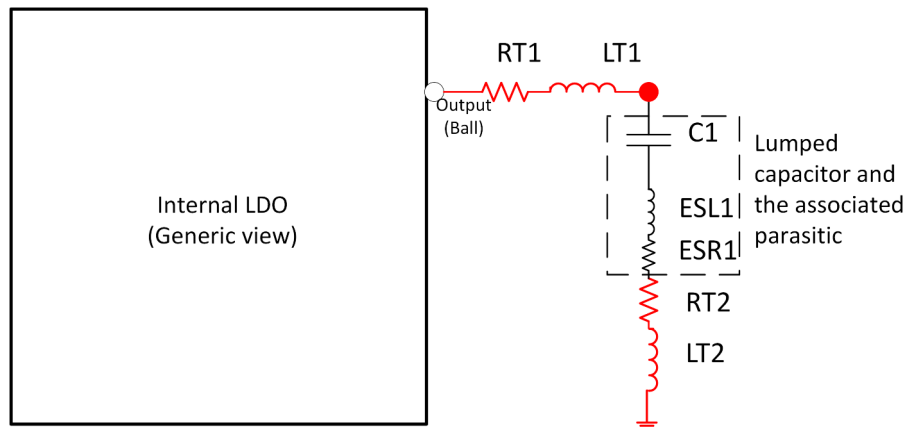

图 7-4. Parasitic offered by different portion of the output path (for one capacitor)
1.2V Digital LDO requires one decoupling capacitor with a typical value of 4.7uF. The parasitic offered by different portion of the output path is illustrated in 图 7-4. “RT1” and “RT2” are parasitic resistances offered by the ball to capacitor lead trace and the ground trace respectively. Similarly, “LT1” and “LT2” are parasitic inductances offered by the ball to capacitor lead trace and the ground trace respectively. “ESL1” and “ESR1” are the effective series inductance and resistance of the decoupling capacitor. 节 7.6.6.1.1 gives the minimum, maximum and typical values of the capacitance and the parasitic.